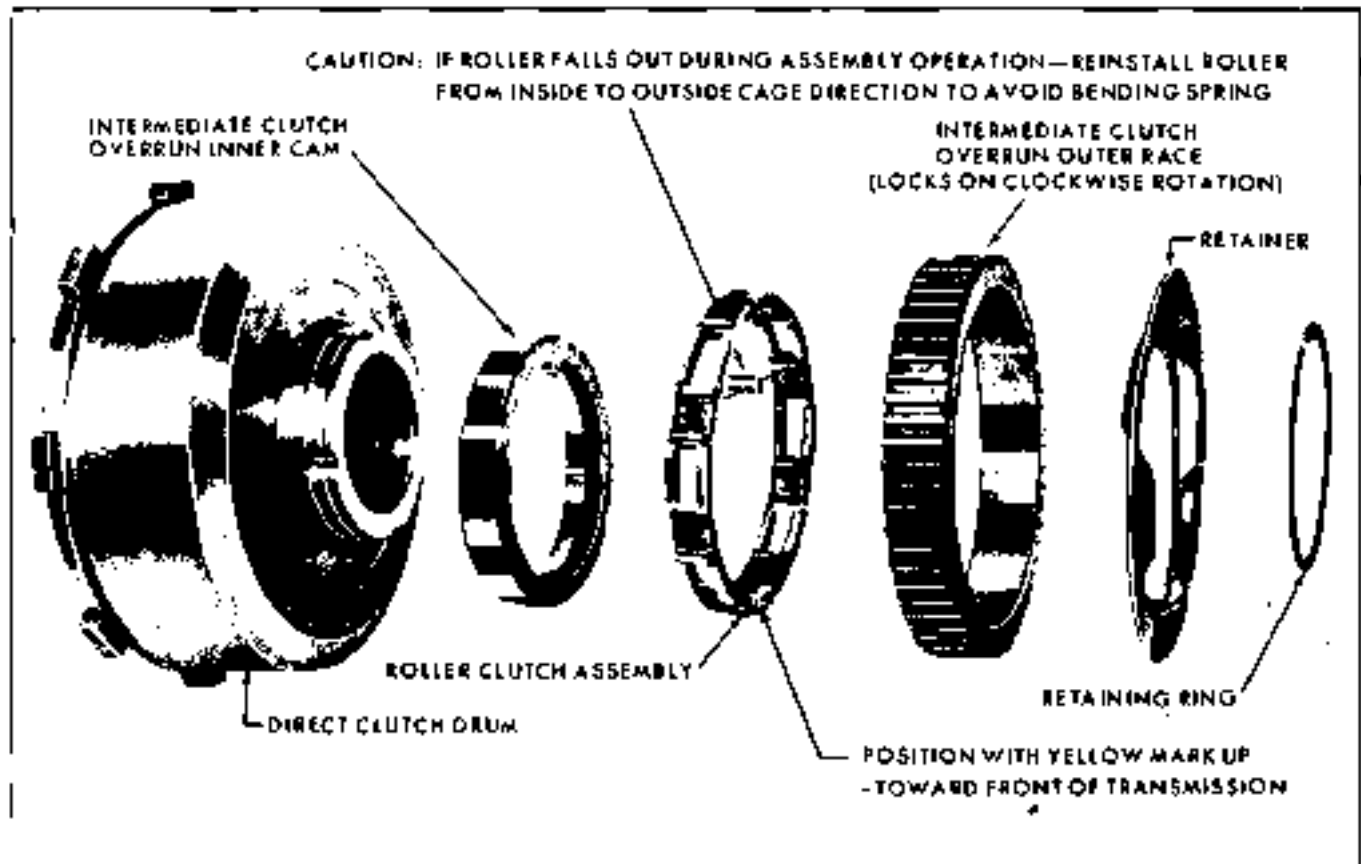

Fig. 7G-70 Exploded View of Intermediate Overrun Clutch Assembly
5. Inspect overrun clutch inner cam and outer race for scratches, wear or indentations (Fig. 7G-70).
7. Inspect clutch drum for wear, scoring, cracks, proper opening of oil passages, wear on clutch plate drive lugs and free operation of ball check (Fig. 7G-71).
a. With direct clutch drum properly supported, remove bushing (Fig. 7G-72).
b. Using Busting Tool J 23062-4 and Drive Handle J 8092, install new bushing $9/32$ " below clutch plate side of hub face (Fig. 7G-73).